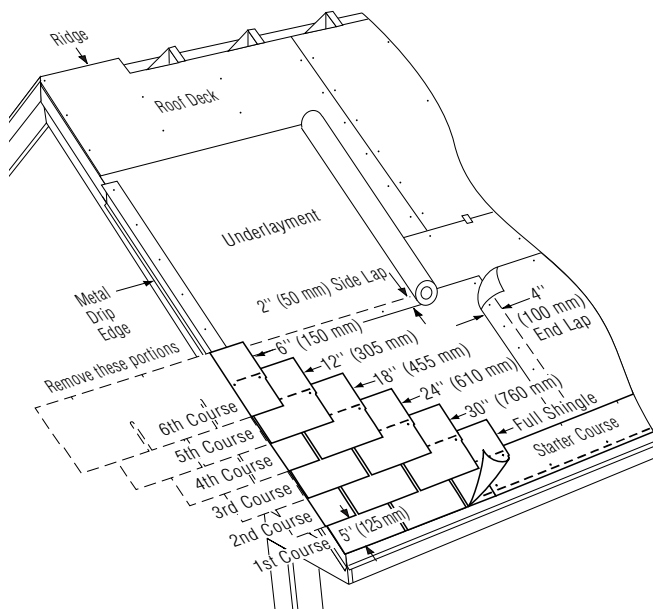

Figure 12-8: Applying the first 6 courses on a standard slope.
**1ST COURSE:** Apply a full shingle at the lower left corner of the roof. Make tabs lie flush with the edges of the starter course. In this way, sealant on the starter strip will adhere to the first-course tabs and help keep them from lifting in high winds (Figure 12-8).
1. Cut 6" off the left side of a shingle and install this 30" piece over and above the first-course shingle, in line with the left edge of the starter course. Leave the 5" tabs of the first-course shingle exposed (*Figure 12-8*).
2. Cut 12" off the first shingle of the third course, 18" off the first shingle of the fourth course, 24" off the first shingle on the fifth course, and 30" off the first shingle of the sixth course. Apply each with its left edge in line with the previous course (*Figure 12-8*).